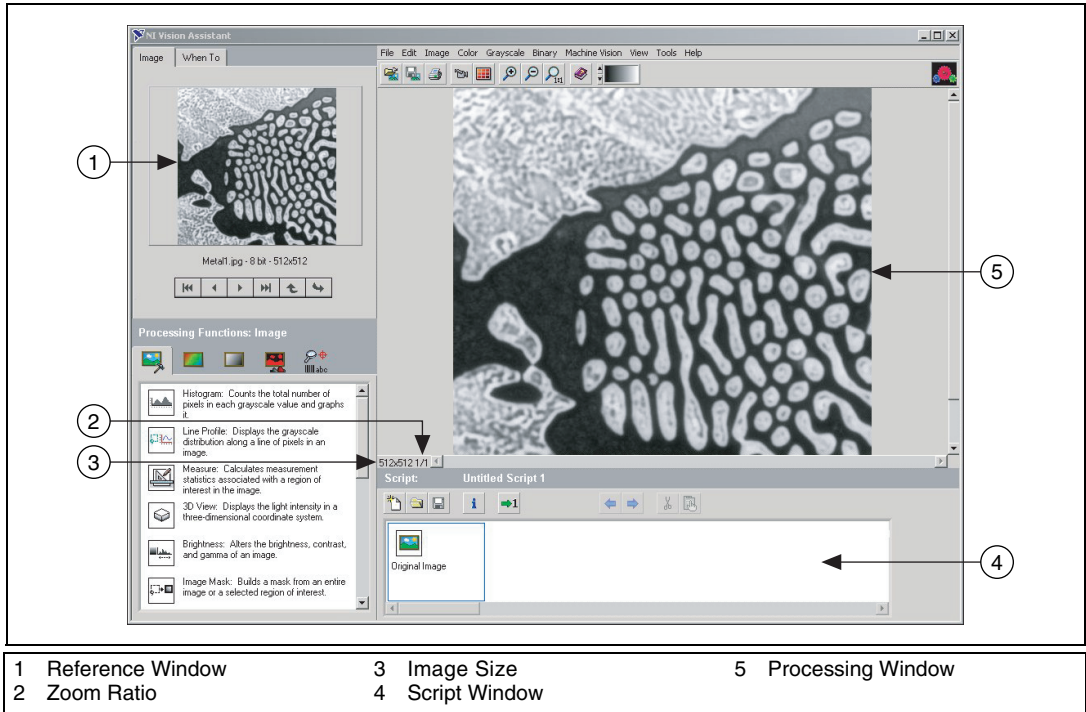

Figure 2-2. Processing an Image
- **Processing window**—Updates the image as you change parameters. Because this view immediately reflects the changes you have made in the parameters window, you can continue modifying parameters until you get the result you want. Refer to Figure 2-2, *Processing an Image*, to view an image loaded into the Processing window.
- Reference window/Embedded Help window—The **Image** tab displays the image source as you manipulate it in the Processing window. The other tabs contain context help for the function you are using. Refer to Figure 2-2, *Processing an Image*, to view an image in the Reference window.
6. Double-click the `Metal1.jpg` image to begin processing it. Vision Assistant loads the image into the Processing window, as shown in Figure 2-2.